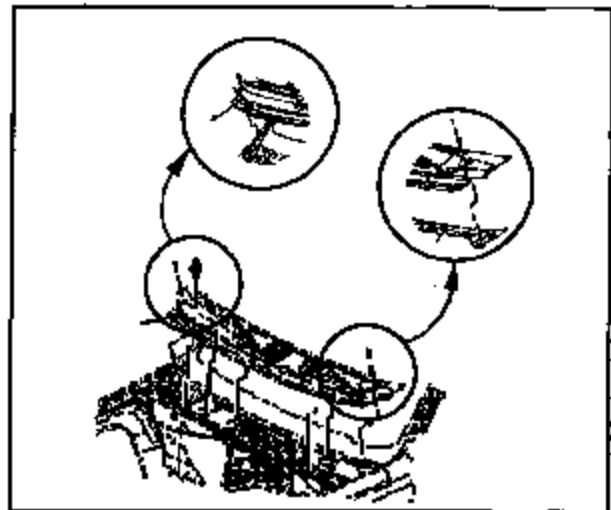

Figure 2
4. Remove the three push-in retainers that attach the air inlet grille (leaf screen) to the plenum sheet metal (see figure 2).
11. Remove the 10 mm hex head nut that attaches the left and right ends of the air inlet grille to the plenum sheet metal (refer to figure 2).